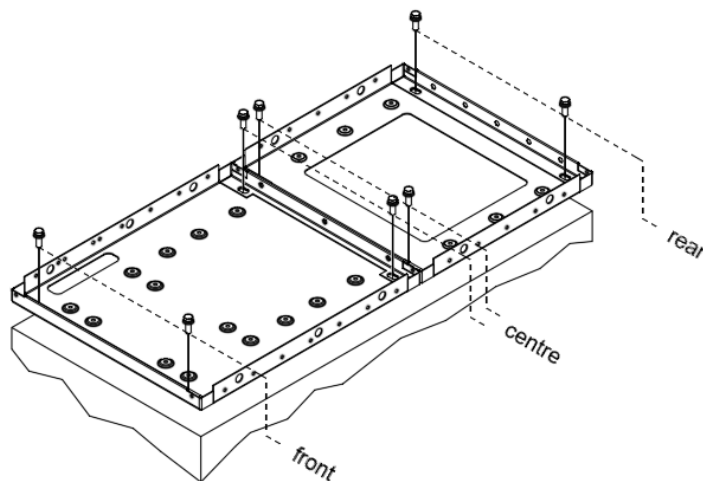

Fig. 3-4 Location of the bolts connecting panel and floor
2. Make sure the panel is properly and equally supported. See the illustration for the locations – Fig 3-4, which need to be supported.
3. Fix the panel to the floor with use of M12 bolts. Apply a standard torque 70Nm, see Fig.3-4. Bolts fixing at the centre of panel is optional, but is required for seismic level.
10. Fix the other panels to the floor with use of M12 bolts and washers, apply torque 70Nm. Bolts Location see Fig.3-4